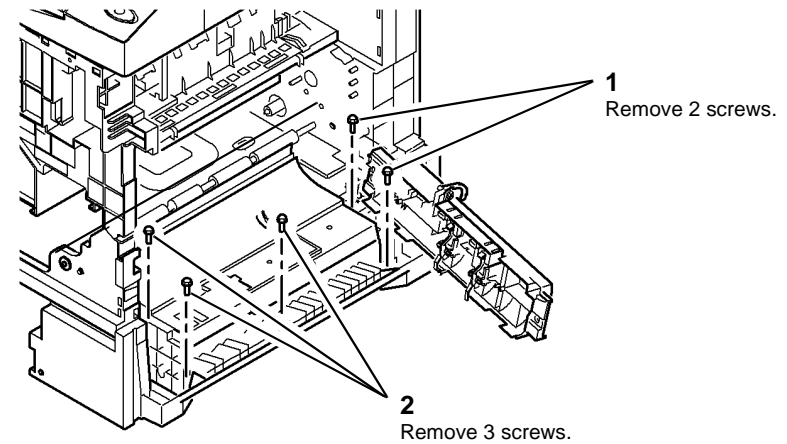

Figure 2 Preparation
3. Prepare to remove the paper transport assembly, Figure 2.